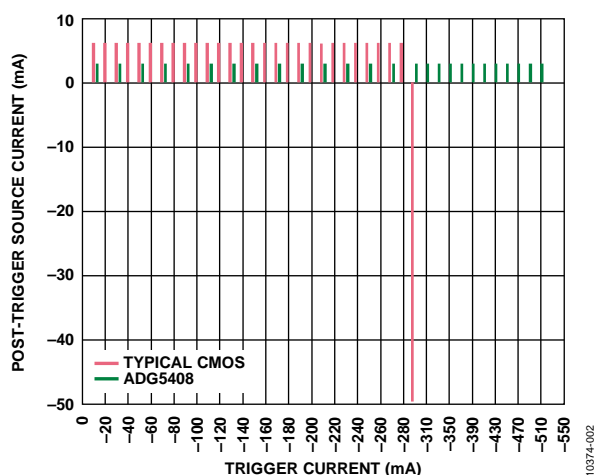
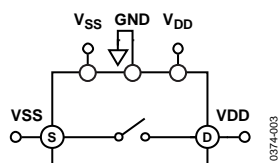

Figure 2. Post Latch-Up Trigger Current Comparison
Figure 3. Latch-Up Test Configuration (Pretrigger) Common Variations
Figure 2 shows the comparison of results between a typical CMOS switch, with epitaxial layer, and the ADG5408 when subjected to a latch-up test. During the test, a stress current is applied to the pin for 1 ms, called the trigger, and the current at the pin is measured after the trigger. This particular test is conducted with the switch set to open, the drain (D) set to VDD, and the source (S) set to VSS, as depicted in Figure 3. The voltage of the source is then driven beyond VSS until the required trigger current is achieved. If latch-up has not occurred, then the current at the pin returns to its pretrigger value. After latch-up has occurred, the pin continues to draw current without being driven by the trigger voltage. This can only be stopped by powering down the part.
From Figure 2, it can be seen that this typical CMOS switch reaches a latch-up current at -290 mA, while the ADG5408 did not latch up until the test ended at -510 mA.